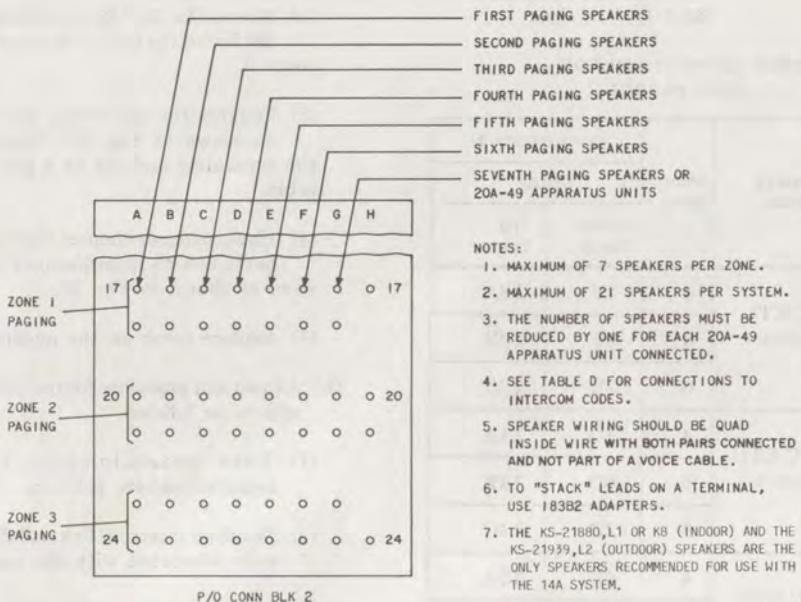

Fig. 33—Connections for Paging Speakers
- (3) Install loudspeakers and connect them to the KSU using quad inside wire with both pairs connected (Fig. 33). To stack leads on the connecting block terminals, use 183B2 adapters. Speaker wiring should be run separately and should not be part of a voice cable. Speakers, connected with 24-gauge quad inside wire (having both pairs connected), may be located a **maximum of 320 feet** from the KSU.